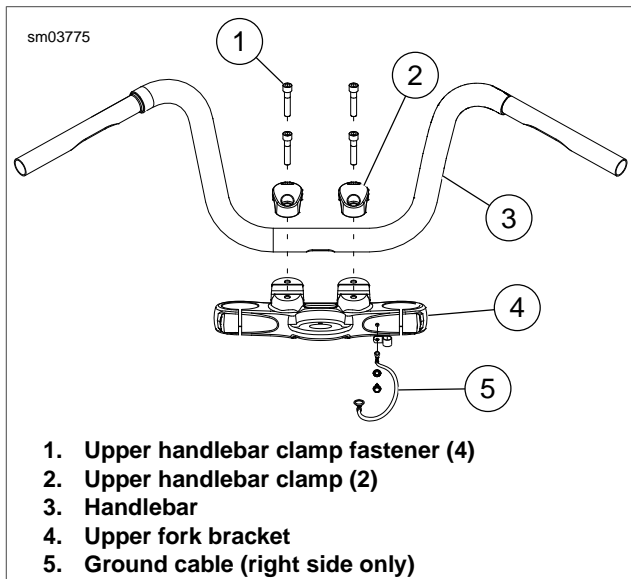

Figure 2-102. Handlebars: FXDB
1. See Figure 2-102. Remove handlebar clamp fasteners (1).
2. Remove upper handlebar clamps (2).
3. Remove handlebar (3).
- See Figure 2-102. Place handlebars (3) on risers. Install upper handlebar clamps (2). Install but do not tighten clamp fasteners.